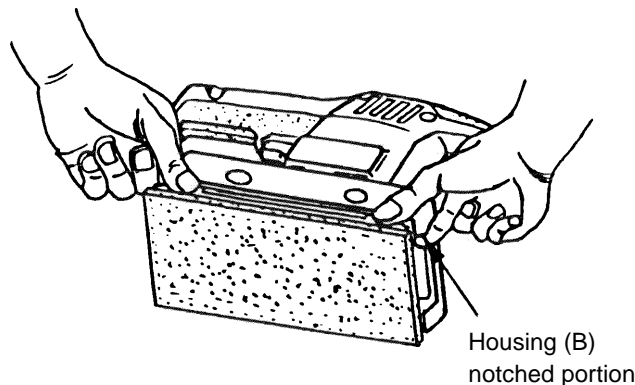

Fig. 10
First, loosen and remove the five D4 x 20 (+) Hd. Tapping Screws (2) which fasten Housing (A) (26) and Housing (B) (1). Then, as illustrated in Fig. 10, place your thumbs on the side of the Base Ass'y (12) and lift up on the notched portions of Housing (B) with your forefingers to remove it.